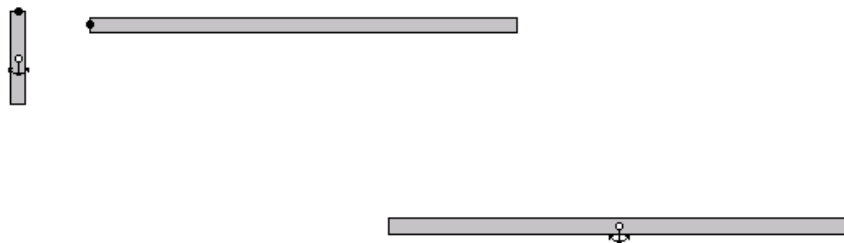

Figure 5
4. Now select the B point on one link, and hold down the Shift key and select the other point (see figure 5).